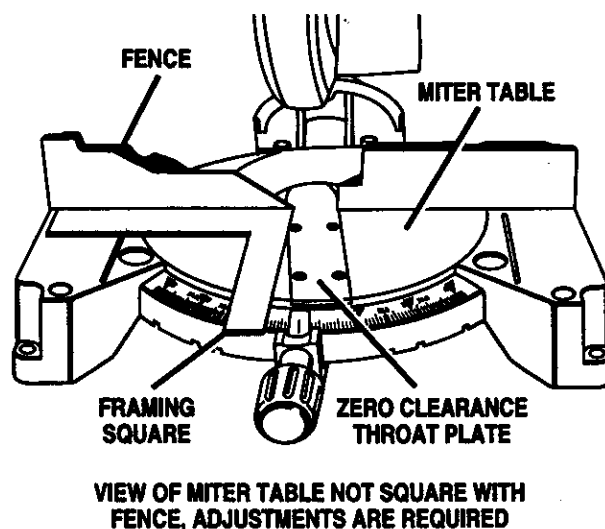

Fig. 14
- If the edge of the framing square and the zero clearance throat plate in the miter table are not parallel as shown in figures 14 and 15, adjustments are needed.